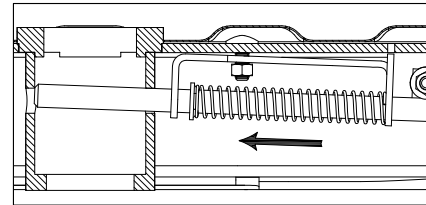
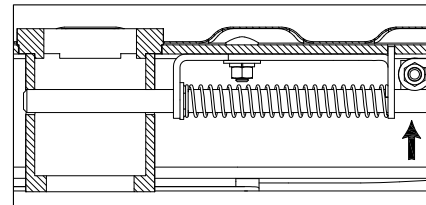

FIGURE E5: Cut-away of center section
FIGURE E6: Cut-away of center section
3. **Attach the latch to the center.** Compress the spring slightly by pushing the frame of the latch toward the socket and insert the tabs of the latch into the slots of the center section as shown in figure E5. Remove the  $\frac{3}{8}$ " finish nut. Install a  $\frac{3}{8}$ " flat washer, lock washer and finish nut. Tighten the hardware, securing the latch to the center section as shown in figure E6.